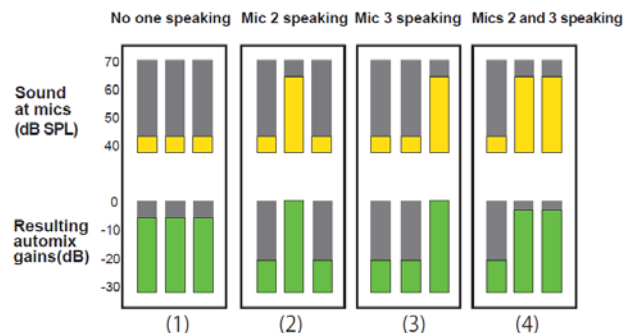

Figure 5
The effect of this algorithm with multiple mic channels will be explained using Figure 5. Unlike gating automixers, which turn mics on and off, gain sharing automixers seamlessly allocate appropriate gain to each input. This operation is similar to a situation in which a mixing engineer is accurately and swiftly controlling multiple input faders.
(1) represents a situation in which no one is speaking. The automix gain of each mic is the same, and the sum of automix gain of all mic inputs is equal to 0 dB, the gain of one mic.
(2) represents a situation in which one person is speaking into mic 2. The automix gain of the mic receiving the voice input automatically turns up to full, and the gains of other mics are automatically turned down.
(3) represents a situation in which another person starts speaking into mic 3. The gain automatically shifts to the mic receiving the voice input, and the gains of other mics are turned down. Since the gain is instantly and seamlessly reallocated, the beginning of the dialog is not cut off.
(4) represents a situation in which two people are speaking simultaneously. The gain is shared between the two mics receiving the voice input, and the unused mics are turned down. Because the total automix gain is the same as when there is only one open mic, feedback does not occur even when two mics are open simultaneously.
Here we will check situation (2) of Figure 5 by substituting values in Eq. 7b.
Likewise, we will check situation (4) of Figure 5. The ambient noise level and mic input level are assumed to be the same as the previous case.
Gain sharing automixers do not require the last mic hold feature. This is because, regardless of the number of active mics, the signal level of the ambient noise is adjusted to match the ambient noise level picked up by one mic. In situation (1) of Figure 5, if we calculate the sum of the signal levels after automixing all mics, we can see that it is equal to the signal level of one mic as shown below.